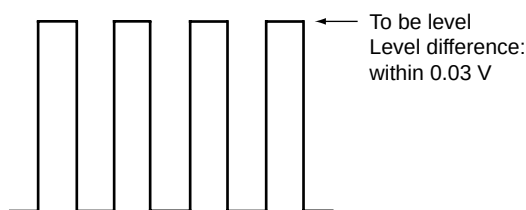

Fig. 3-9
- Adjust the SUB PHASE so that all output will be the same. (Fig. 3-9)